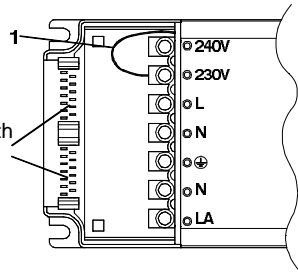

Figure: 2
The standard gear box (230-240V) is prewired for 230V/50Hz voltage. The gear box 230-250V is prewired for 250V/50Hz. A change to an other voltage (shown on the gear box) can be made internally (Figure 2).
Choice of voltage. Fix cable (1) to the right voltage, refer Fig 2. After connecting the cables at the terminals (3) the strain relief blocks (4) have to be fitted to the strain relief (5) and completely pushed down. Now you have to mount the cover (2) until it is engaged, refer Figure 1.